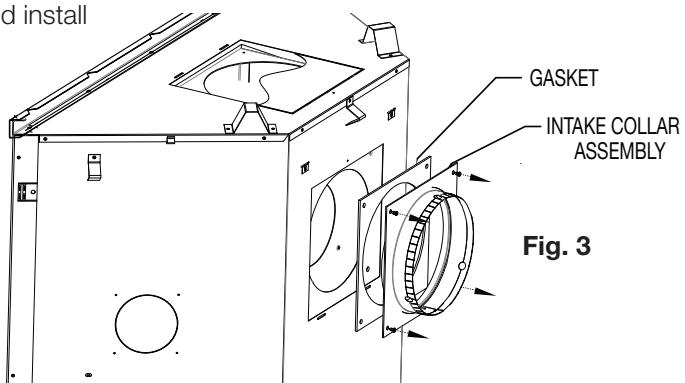

Fig. 3
- Install the 7" (177mm) collar assembly, complete with gasket, onto the rear panel around the 4" (102mm) collar with the screws provided (**Fig. 3**).
- From inside the firebox, install the 4" (101.6mm) exhaust collar with gasket up through the top of the firebox, and secure with the the 4 hex head 3/4" black screws supplied in the manual baggie (**Fig. 3**).